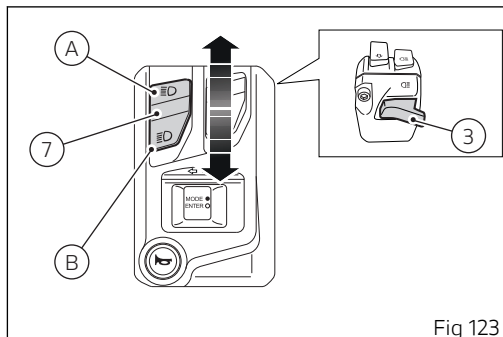

Fig 123
It the low beam is activated, it is possible to switch on the high beam with button (7, Fig 123) position (A), or flash with button (3, Fig 123).
If engine is not started upon key-on, it is anyway possible to switch low/high beams on by pushing button (7, Fig 123) positions (B) and (A), or flash with button (3, Fig 123) on LH switch.
By pressing button (7, Fig 123) the high and low beams are turned on whereas the DRL light is turned off. Upon releasing the light button (7, Fig 123) the DRL light is automatically switched on again.